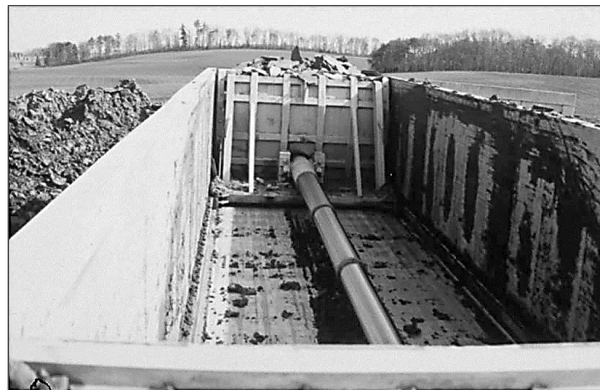

Figure 9-3. Ram eject trailer.
- ❑ **Ram eject or push out tractor-trailers.** Unlike end or side dump trucks or trailers, ram-eject trailers don't rely on gravity to unload the residuals. A hydraulic ram blade extends the full width and height of the truck or trailer body. This blade moves from front to rear, wiping the sides and bottom cleanly, ejecting the load evenly from a rear ramp (Figure 9-3). Load hang ups (sticking or bridging), common with gravity-dependent dump trucks, rarely happen.